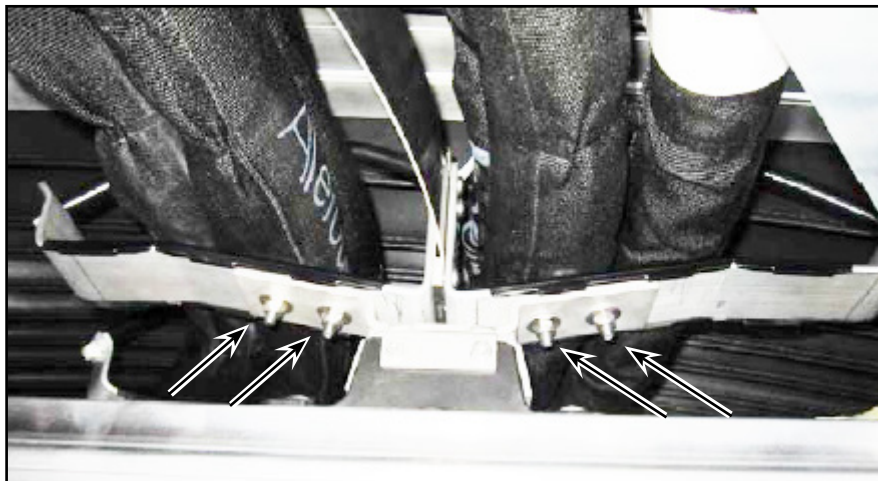

Figure 15 - Bolt the New Sliding Carriage
- 1.18. Sliding carriage installation, see Figure 15: